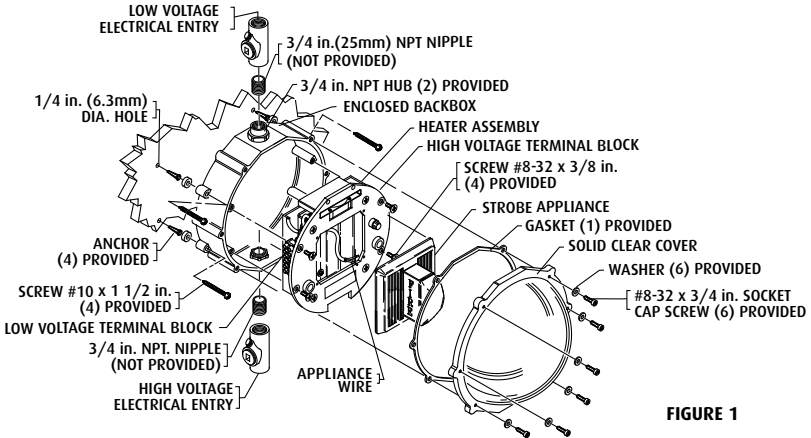

FIGURE 1
## MOUNT BACKBOX TO WALL (Refer to Fig. 1)
2. Mount backbox in desired location (wall mount only) using the four #10 x 1-1/2" screws and anchors (provided). Drill a 1/4" diameter pilot hole for plastic anchors at spacing in Fig. 1.
9. Attach heater assembly to backbox using (4) #8-32 x 3/8" flat head screws into heater assembly mounting bosses on backbox (see Fig. 1). Make sure all service wiring is gathered away from the heater and be careful not to pinch wire under heater assembly. Fan must be mounted toward top of enclosure.